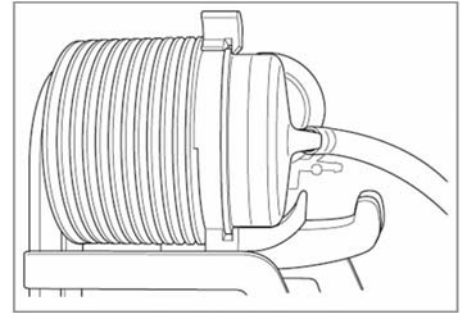

Figure 6
- Make sure that the underside of the centrifugal pump is in close contact with the pump receptacle and that the slide hook is in position (Figure 6).